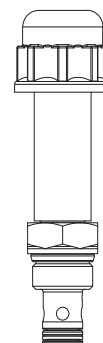

FIG. 4-5
6. Push and hold the manual override button on valve (9008438). (FIG. 4-5)